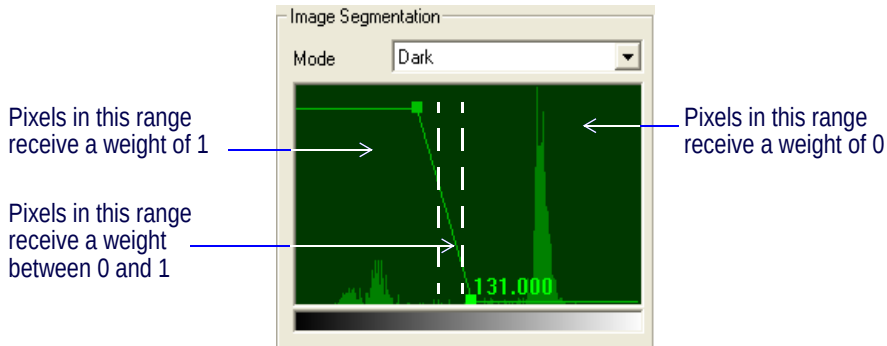

Figure 37 Image Segmentation Function Editor
3. Use the mouse to drag the handles in the graphic function editor. Set the Image Segmentation weight function as illustrated in Figure 37.